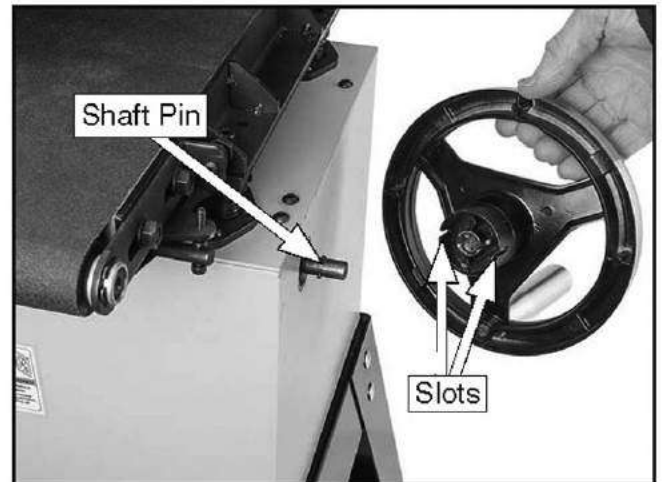

Figure 12. Installing table elevation handwheel.
15. Slide table elevation handwheel over shaft pin (see **Figure 12**).